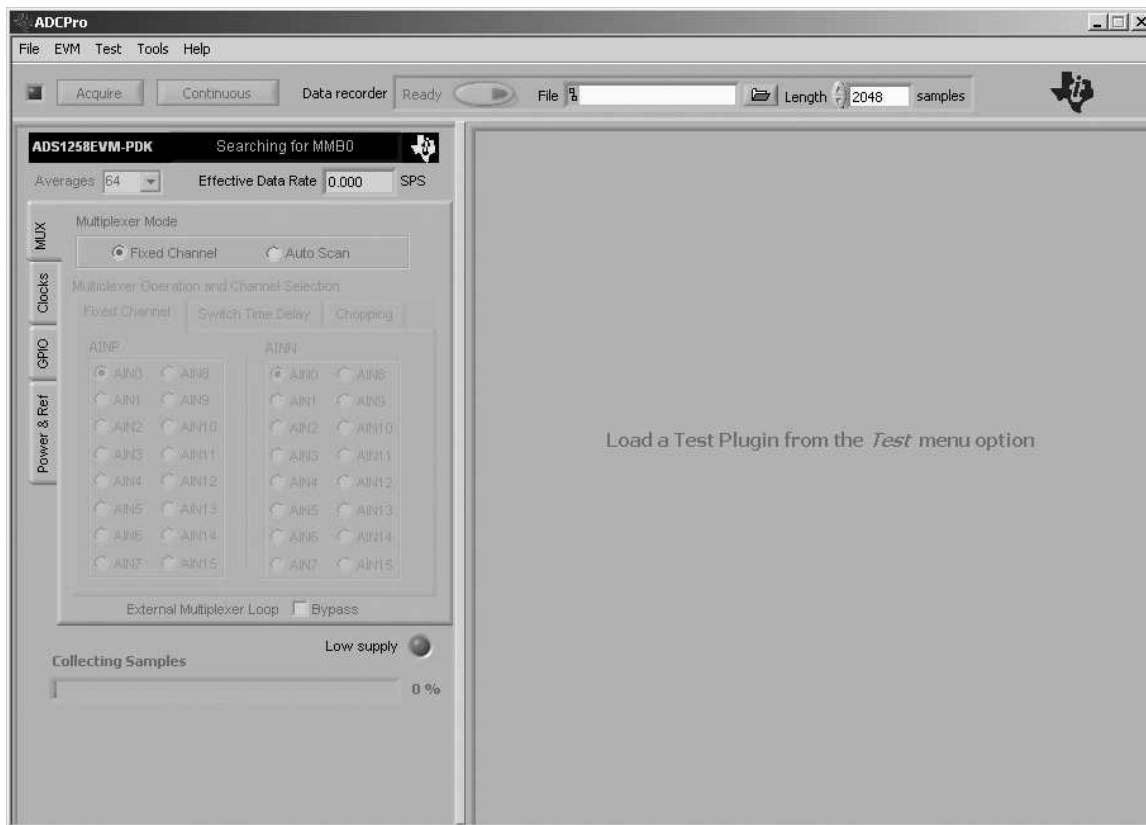

Figure 14. ADS1258EVM-PDK Plug-In Display Window
2. Select *ADS1258EVM* from the EVM drop-down menu. The ADS1258EVM-PDK plug-in appears in the left pane, as shown in Figure 14.